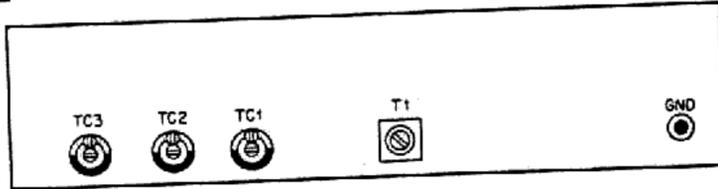
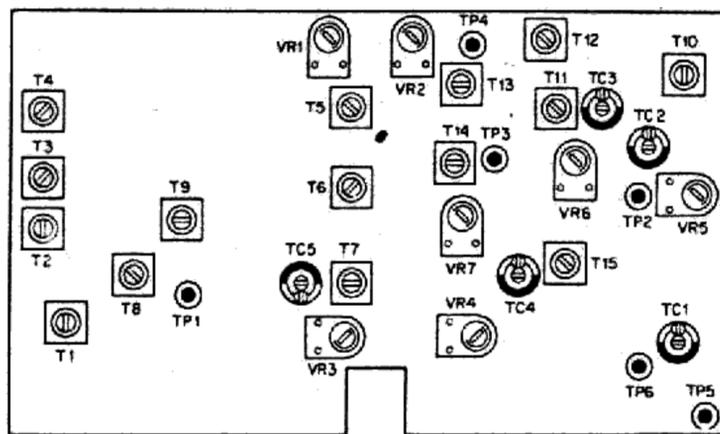
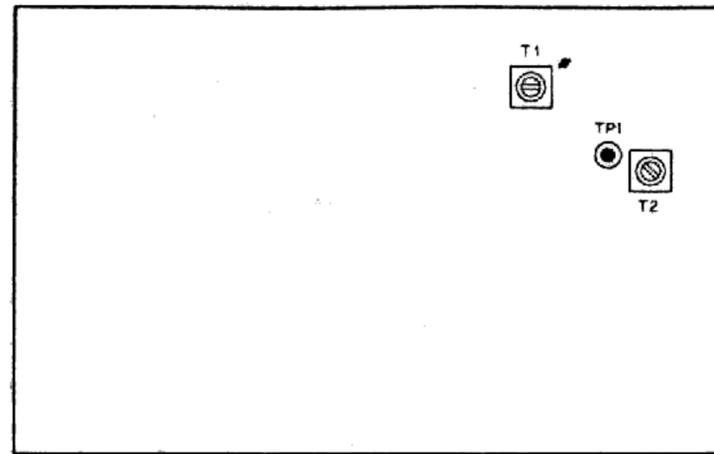

Fig. 21 CAR unit
Fig. 24 IF unit
Fig. 25 RF unit
- 1) Connect RF VTVM to TP5 in IF unit (X48-1150-00) and adjust oscillation coil T1 in CAR-1 unit (X50-1310-00) until the meter reads 50mV (refer to Fig. 21). (refer to Fig. 24 IF unit)
- 2) Adjust T1 to T7 in IF unit (X48-1150-00) and T2 in RF unit (X44-1150-00) until S meter reads maximum value (refer to Fig. 24 and Fig. 25).
- 2) Turn the RF GAIN knob fully counterclockwise and adjust VR3 and TC5 in IF unit (X48-1150-00) alternately until the output becomes minimum (refer to Fig. 24).
- 1) After receiving marker signal and turning ON NB switch, adjust T8 and T9 until the terminal voltage at TP1 on IF unit (X48-1150-00) becomes minimum (refer to Fig. 24).
- 1) After adjusting each section until sensitivity becomes minimum, adjust VR1 in IF unit (X48-1150-00) under no signal condition, thus making zero point adjustment of S meter (refer to Fig. 24).